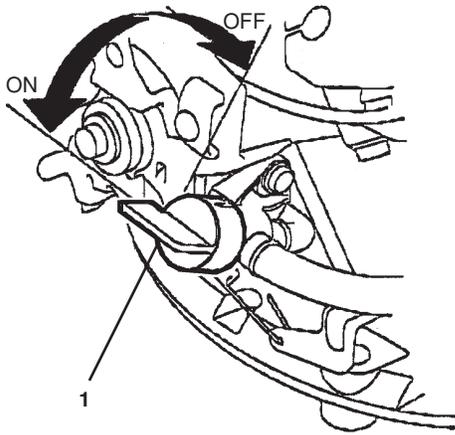

Figure 17
1. Be sure fuel valve is in the ON position (Figure 17).